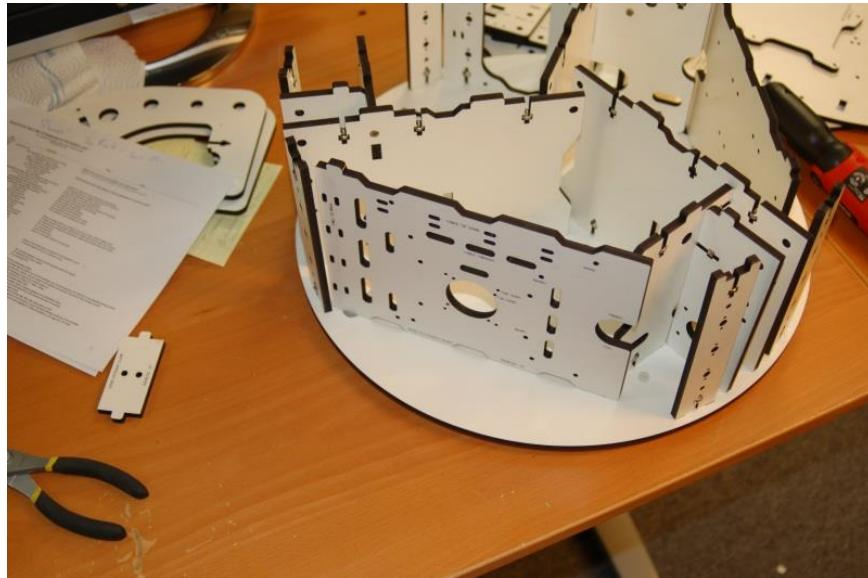

Figure 15 - Cover Brackets and Electronics Door installed.
1.20 – Install Electronics Mount (P/N: 68358) and Support Panel (P/N: 68357). Refer to Fig. 15 above for the location of the Electronics Panel. The door “pin” fits into the hole located next to the X axis T-Slot mount. If you’ve got the version of the door that has the LCD mount in it, you’ll want to swap the doors – install the LCD door where I show the electronics door and the electronics door where I show the Support Panel going. The reason for this is that if, in the future you want to use dual extruders, the second extruder can block your access to the LCD panel if you’ve installed it where the Support Panel would normally be installed. Thanks to cjdavis618 in the SeeMeCNC forums for pointing this out!